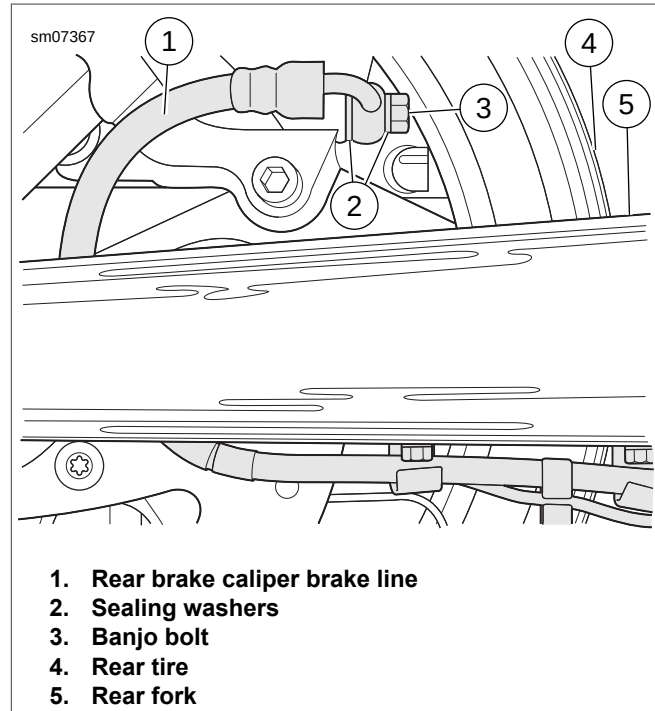

Figure C-16. Rear Brake Caliper Brake Line
- 3. See Figure C-16. Start banjo bolt (3) with **new** sealing washers (2) to secure brake line (1) to rear brake caliper.